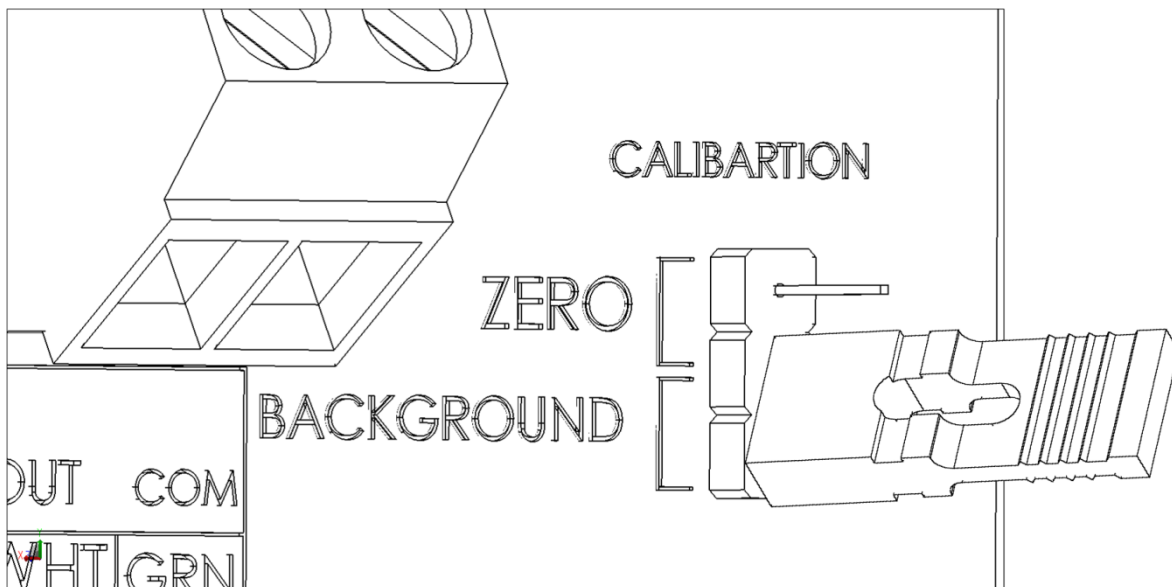

Figure 14: Shorting the Background Jumpers
5. Using the supplied jumper, short the Background jumpers for 10 seconds as shown in Figure 14.